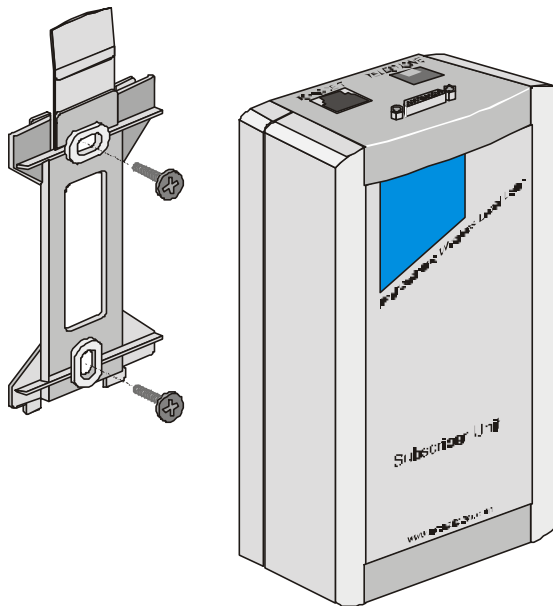

Figure 6. Wall Mounting the Indoor Unit
1. Remove the wall mounting bracket clipped to the rear of the Indoor unit and mount the Indoor unit on a wall as shown in Figure 6.